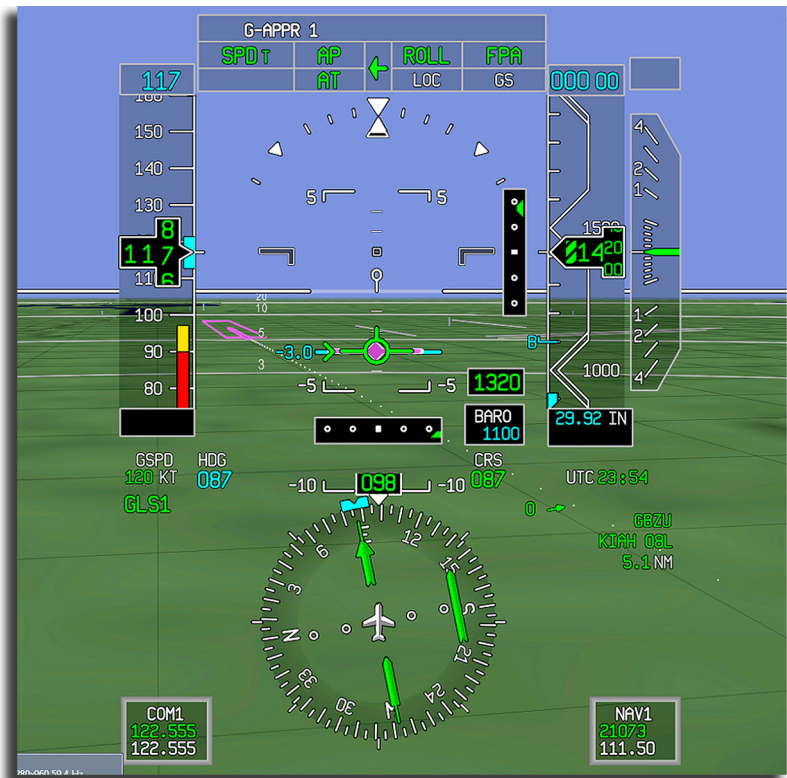

Figure 10-1
This section describes the flight director and autopilot (AP) modes of operation and approach status displays. Flight director (FD) modes are divided into lateral modes and vertical modes. The active and/or armed FD modes are displayed on the PFD in the flight mode annunciator (FMA). The FMA, shown in Figure 10-1, contains three rows (the top row is only displayed when an approach status is displayed).